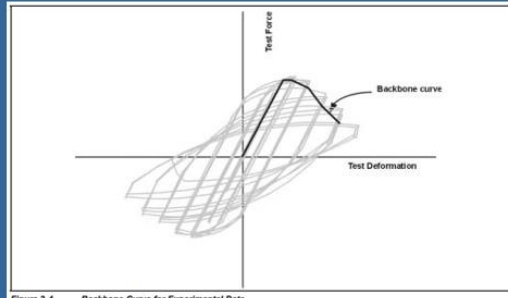

Figure 2-4 Backbone Curve for Experimental Data
- 1.2. A smooth “backbone” curve shall be drawn through the intersection of the first cycle curve for the (*i*)th deformation step with the second cycle curve of the (*i*-1)th deformation step, for all *i* steps, as indicated in Figure 2-4.